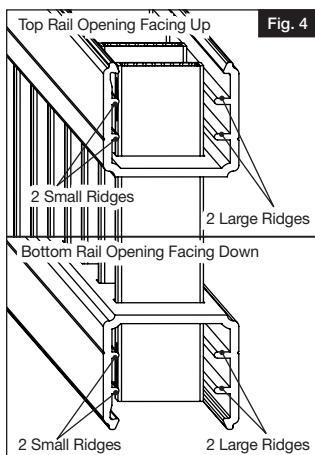

Fig. 4
- Beneath all post locations install at least two 2"x8" blocks using at least three #10x3 $\frac{1}{2}$ " deck screws penetrating through the joists at least 1 $\frac{1}{2}$ " into the blocks (sold separately) (Fig. 4 & 5).
- Place top and bottom rail on a smooth, flat and clean surface. Then, align the top and bottom rails so that the ridges inside the rails are oriented on the same side (Fig. 4).